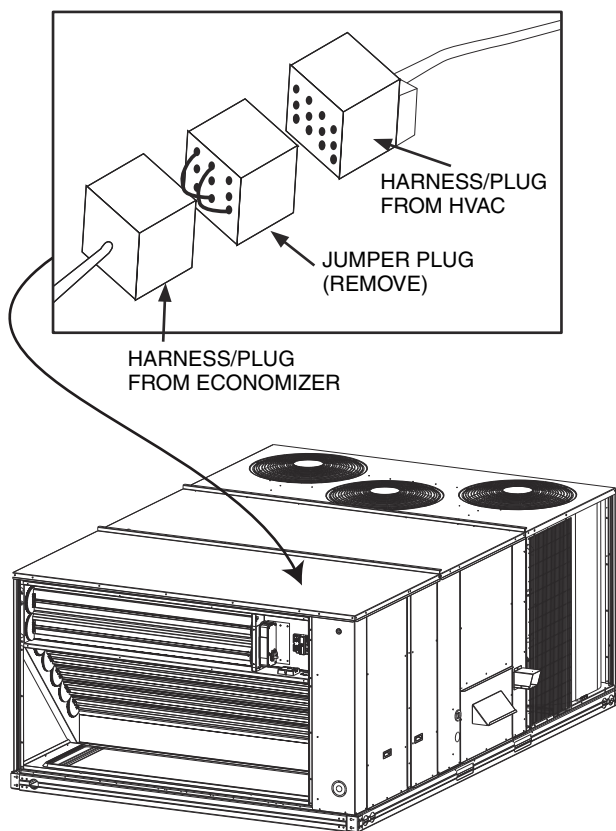

Fig. 7 — Unit Wiring Harness
8. Before the economizer is secured in place on the right hand side, remove and save the 12-pin jumper plug from the unit wiring harness. (See Fig 7.) Insert the economizer plug into the unit wiring harness plug. (See Fig 7 and 12.)
9. Install the bottom panel with the relief damper attached on the unit. (See Fig. 7.) Screw panel in place.
8. Before the economizer is secured in place on the right hand side, remove and save the 12-pin jumper plug from the unit wiring harness. (See Fig. 7 and 12.) Insert the EconoMi\$er2 plug. (See Fig. 7.)